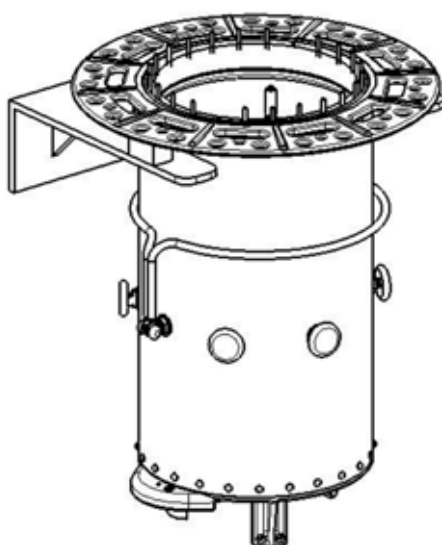

Figure 23 Putting tap-changer onto the support frame
- 6) Carefully lift out the switch insert vertically from the oil compartment (Figure 23).